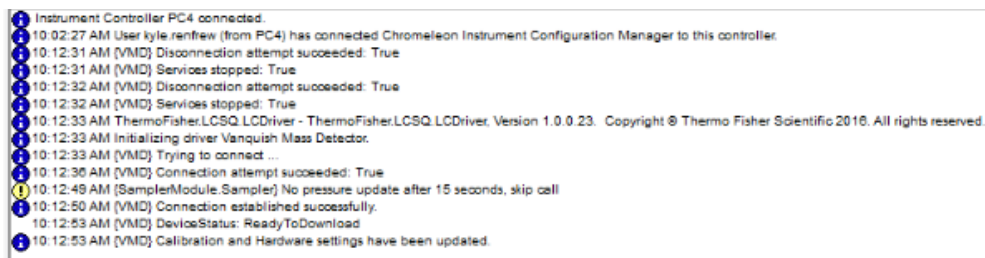

Figure 74: MS instrument audit trail information
- 30) Select the **OK** button and Chromeleon will attempt initial communication with the MS instrument. A successful attempt will provide several entries in the instrument configuration audit trail window as shown in Figure 74 below.